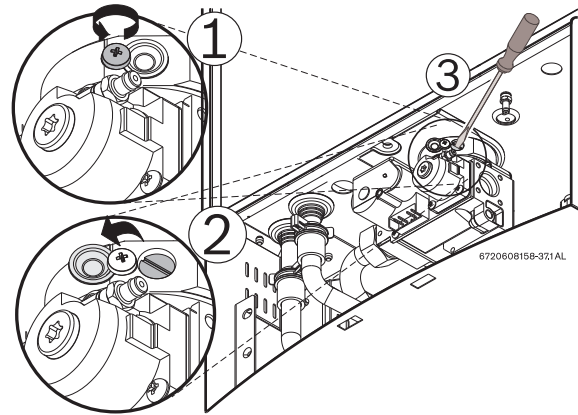

Fig. 67 Adjusting P1 CO2 level
- Loosen yellow painted philips screw (1) and cover should rotate down (2) revealing a recessed brass slotted screw. Fig. 67.